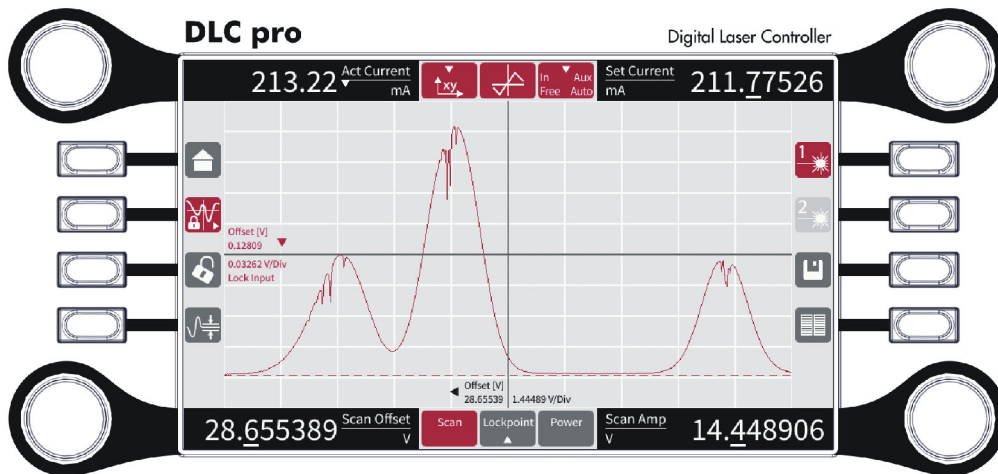

Figure 120 Absorption signal of a Doppler-free Rb spectroscopy
- Adjust the spectroscopy signal by zooming and dragging the display graph on the touchscreen. The signal expected after the adjustment will look similar to the one shown in Figure 120.